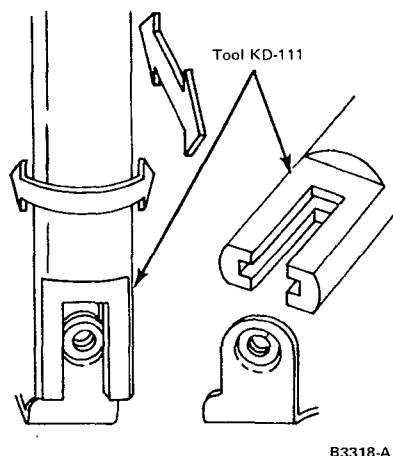

FIG. 7 Using Alignment Tool
2. Using the tool shown (Figure 7) and exerting **very light pressure**, align the breaker point bracket. **Do not bend the breaker arm.**